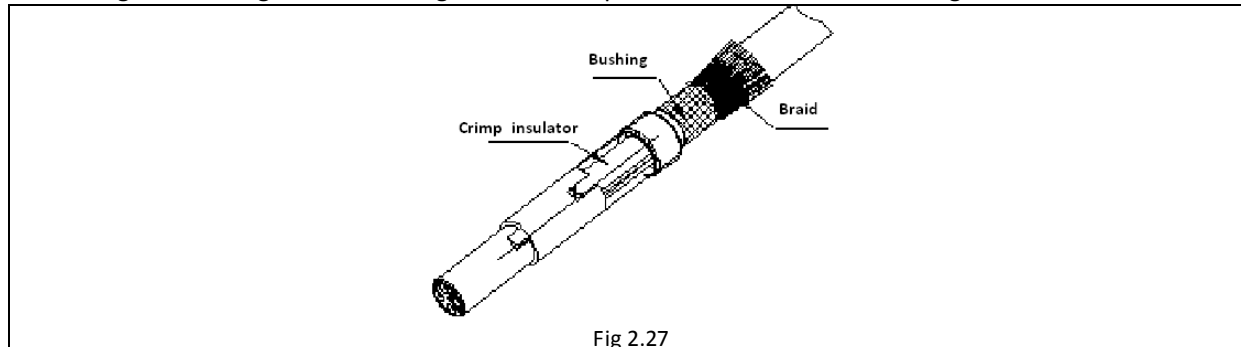

Fig 2.27
- 4) Bring the bushing forward and against the crimp insulator, flare the braid as fig 2.27 shown.